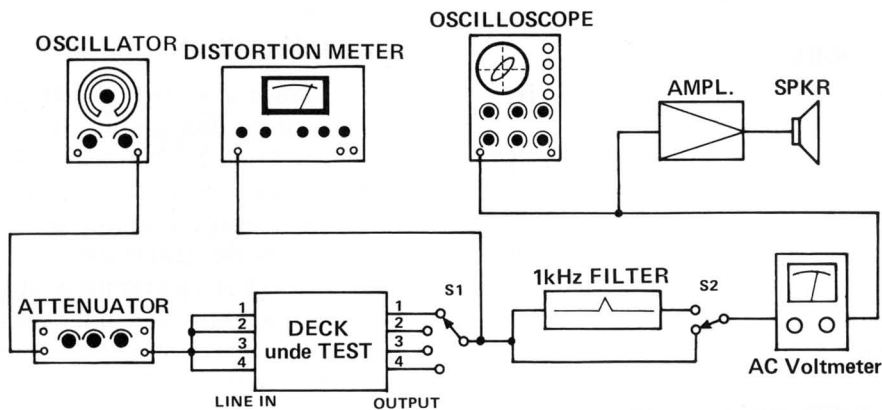

Fig. 5-17 Basic test setup
5. Unless otherwise stated, use the basic test setup (Fig. 5-17), where the 1-kHz filter is bypassed.
**(8) ERASE EFFICIENCY**
**Connection:** The same as in Fig. 5-17, but switch on the 1-kHz filter.
**(9) CHANNEL SEPARATION**
**Connection:** Fig. 5-17 with 1-kHz filter switched ON.